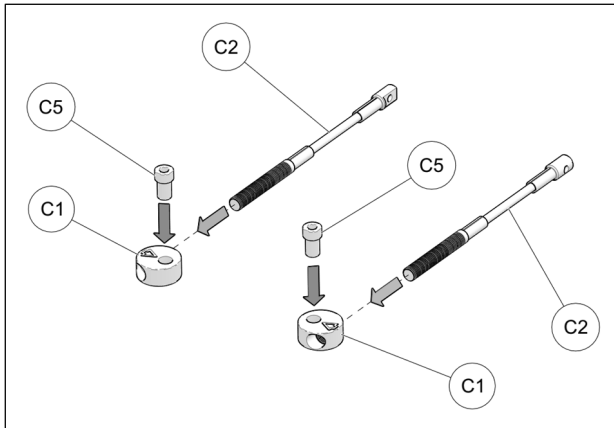

Fig. 18
10. Assemble steering limiter cables (**C2**), aluminum disks (**C1**) and step spacers (**C5**) as shown on Fig. 18